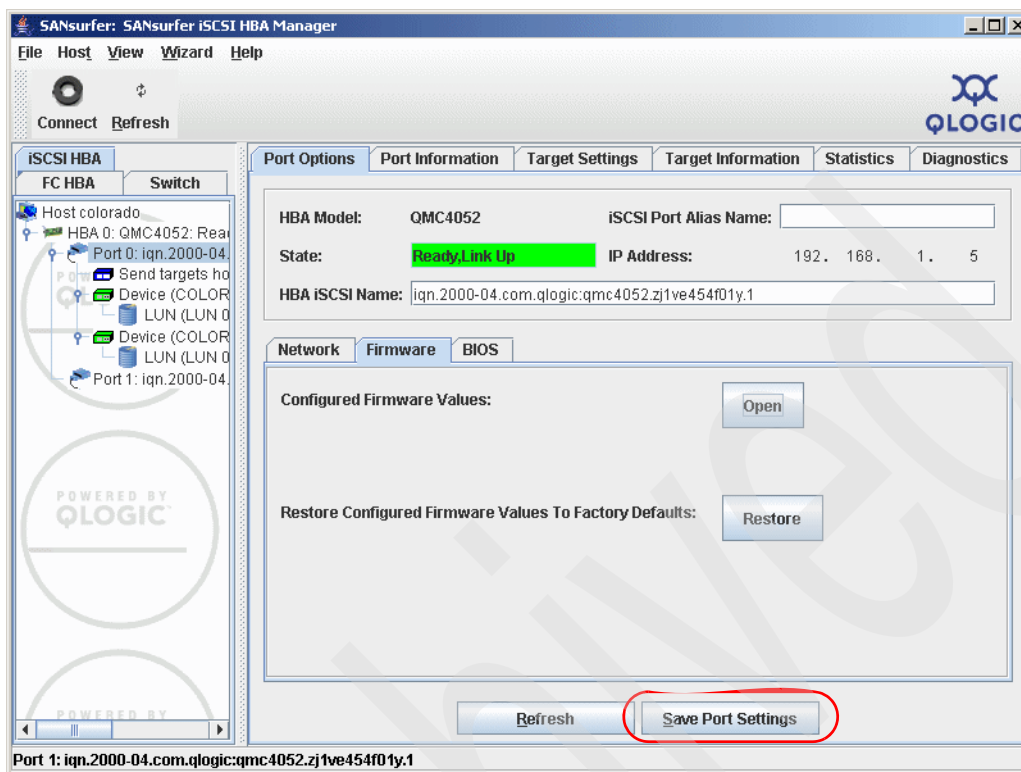

Figure 7-60 Save port settings
6. Click **Save Port Settings** as shown in Figure 7-60 on page 264 to apply the firmware setting changes.